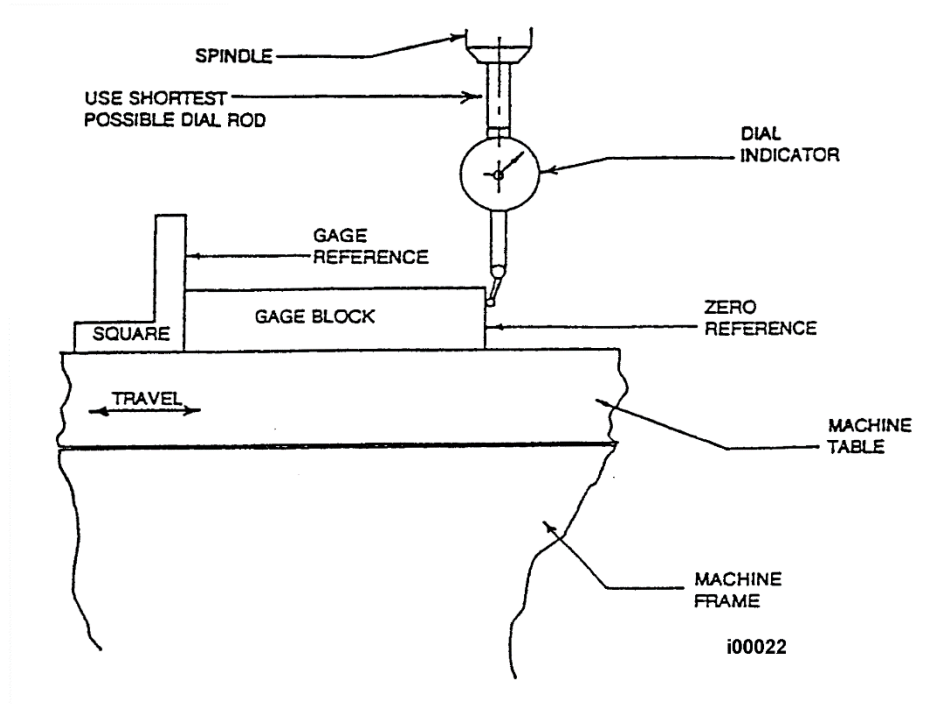

Figure 6.1.10.2a - Calibration Set Up
1. Set-up a gauge block or standard and indicate it parallel to the axis you are calibrating see figure 6.1.10.2a. (**Note** - Put the display in Inch or mm to match your gage block.)
3. Go to setup mode, go to section "B" and press CODE 123 see figure 6.1.10.2b.